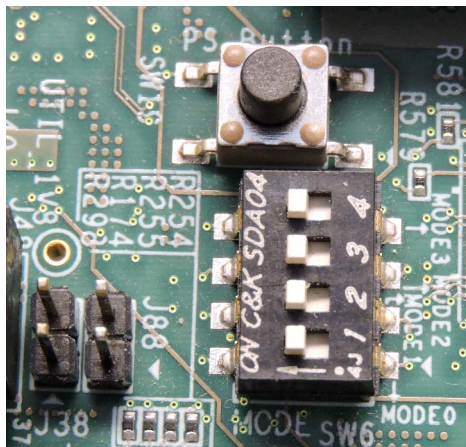

Figure 3-1: SW6 Switch Settings for JTAG Boot Mode
4. Power on the ZCU102 board using the switch indicated in Figure 3-1.
IMPORTANT: Ensure that the SW6 switch is set to JTAG boot mode as shown in Figure 3-1.